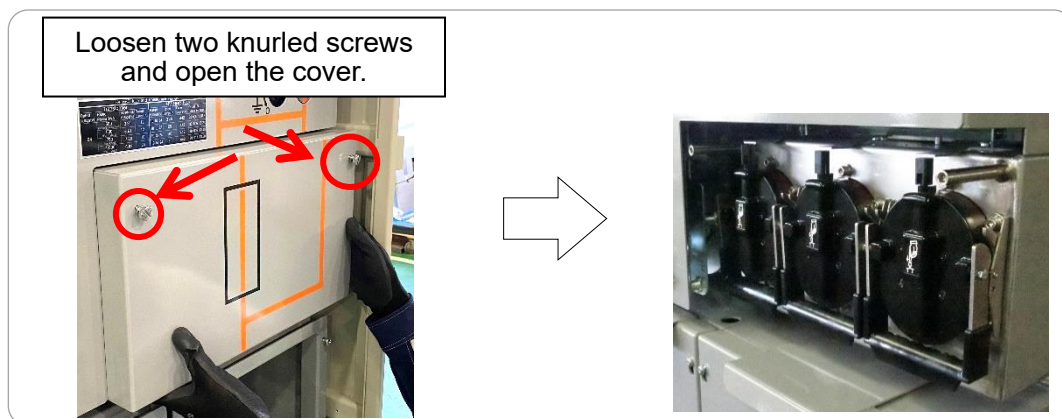

Figure 23. Opening the cover
② Loosen two knurled screws, and open the cover. [Figure 23]